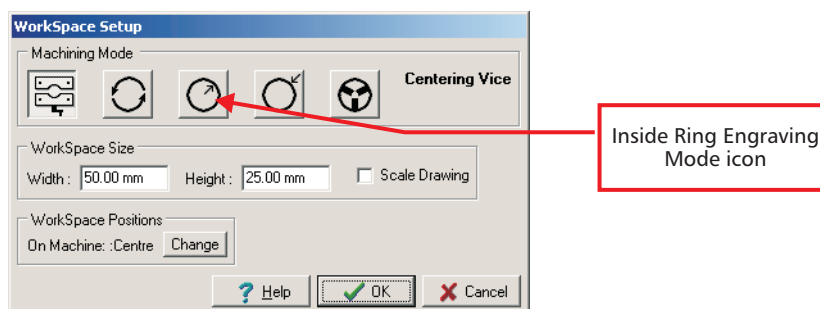

Figure 4
- 8 You will now be asked the mode you wish to load, select "Inside Ring Engraving", third icon from the left, see Figure 4, then press "OK". You will now see a see the engraving area on a yellow background on the screen.